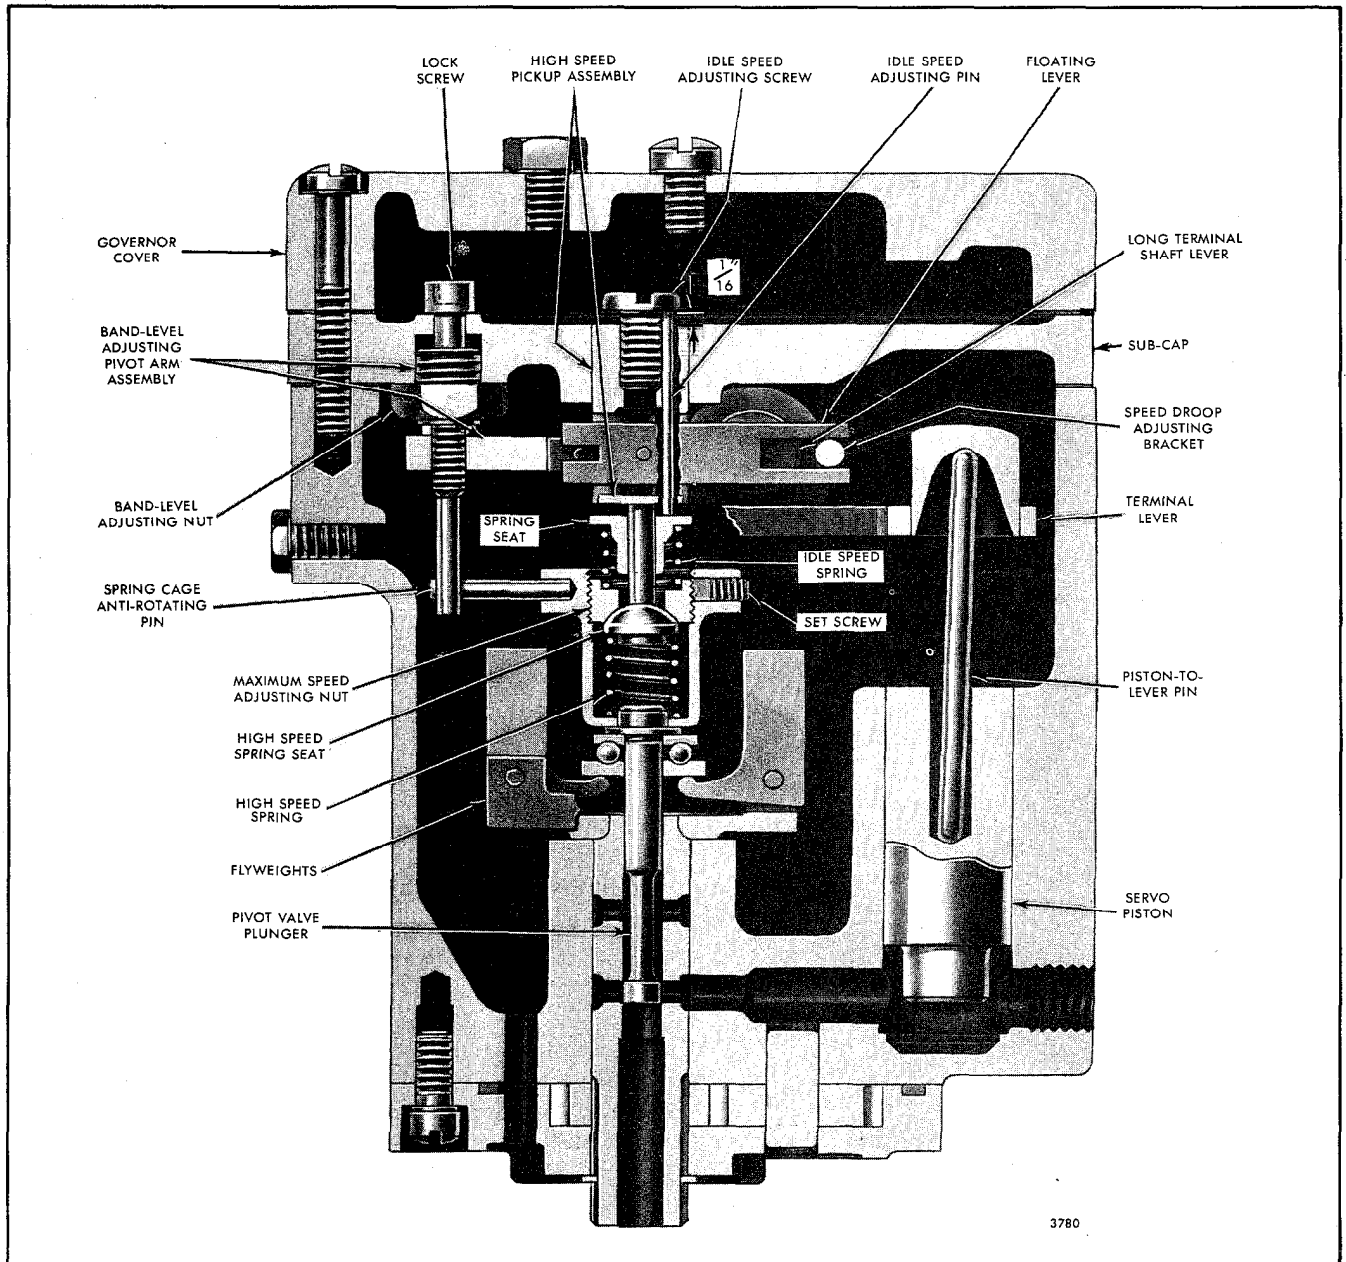

Fig. 8 - Cross-Section of Limiting Speed Hydraulic Governor for 16V Engine
2. With a long thin screw driver, pry one of the flyweights outward with a light force (Figs. 8 and 9). It should reach a vertical position. If not, proceed with Step 3.
3. Loosen the band-level pivot arm lock screw and turn the band-level adjusting nut (Figs. 8 and 10) clockwise to raise the band-level or counter-clockwise to lower the band-level. Tighten the lock screw to draw the pivot arm assembly in place. Then check the adjustment as described in Step 2. Readjust the band-level, if necessary.
There should be approximately 1/16" clearance between the bottom of the idle speed adjusting screw head and the plunger directly under the screw head (Fig. 8).
4. Hold the speed control lever in the idle position. Then turn the idle speed adjusting screw (Figs. 8 and 10) in or out until the desired idle speed is obtained.
2. Loosen the small set screw (on the side opposite the anti-rotating pin) in the high speed spring cage with a 5/64" Allen wrench (Figs. 8 and 12).